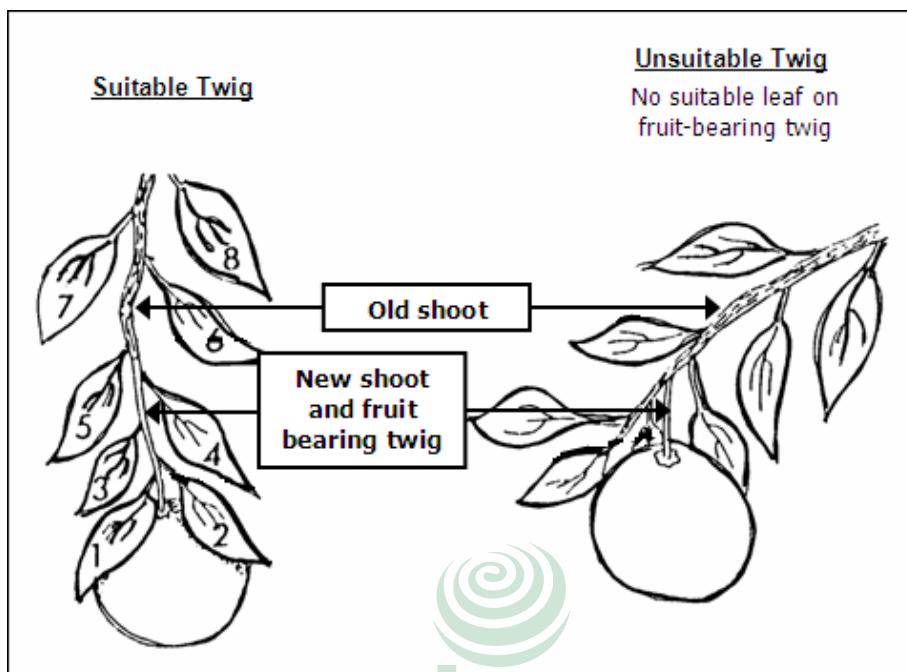

Figure 2.2: Selecting a Suitable Terminal (Time of Sampling February to May)
- Pick leaves from **fruit bearing** twigs, as illustrated in figure 2.2.